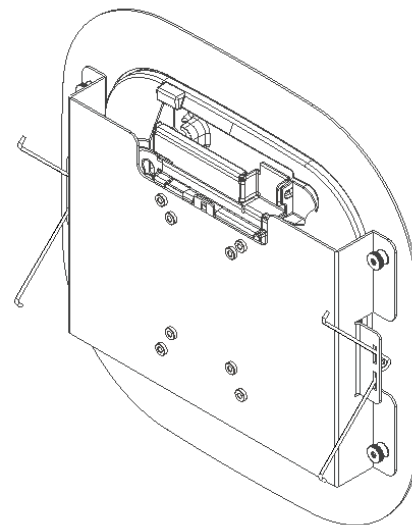

Figure 7 - Reassemble Trim
Step 7 - Reassemble the trim by attaching the trim piece which was previously removed by inserting the studs into the slotted holes and installing the thumb nuts as shown in Figure 7.